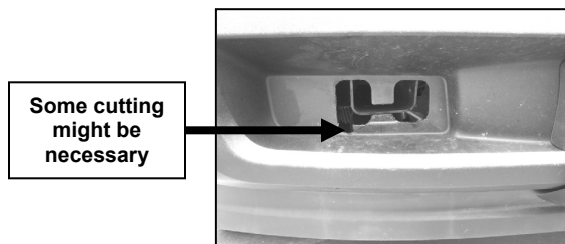

Fig 1
3. To install the two Frame Brackets and two Grille Guard Mounting brackets, remove the tow hook bolts and use them to install the Frame Brackets and the Grille Guard Mounting Brackets. **NOTE:** Using a sharp utility knife cutout an opening to allow Grille Guard Mounting Brackets to pass through tow hook cavity (Fig 1). The tow hooks remain in their stock position in the frame rails. Install the Grille Guard Mounting Brackets on the outer side of the tow hooks.